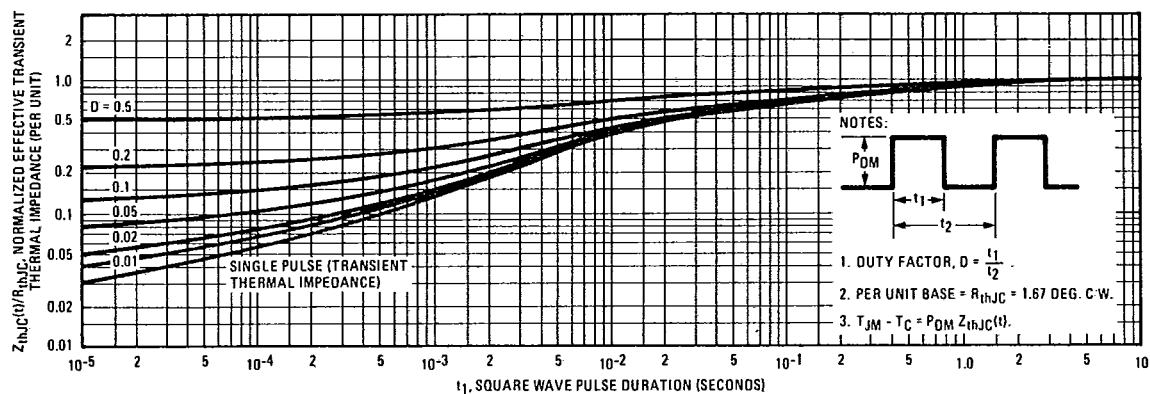

Fig. 5 — Maximum Effective Transient Thermal Impedance, Junction-to-Case Vs. Pulse Duration
① $T_J = 25^\circ\text{C}$ to 150°C . ② Pulse Test: Pulse width $< 300\mu\text{s}$, Duty Cycle $< 2\%$.
③ Repetitive Rating: Pulse width limited by max. junction temperature. See Transient Thermal Impedance Curve (Fig. 5).